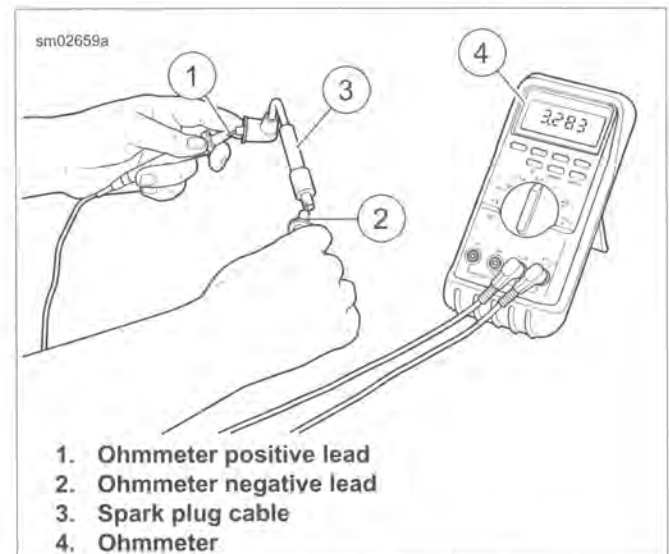

Figure 1-38. Testing Resistance
3. See Figure 1-38. Check spark plug cable resistance with an ohmmeter. Replace cables not meeting resistance specifications. Refer to Table 1-19.